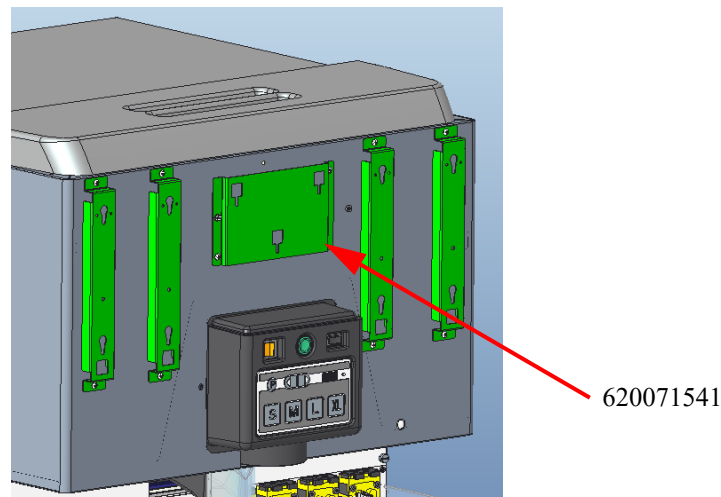

Figure 14.
- Figure 14. shows the location of adapter brackets, suitable for Option-3 & Option-6. Assemble Cup/Lid dispenser adapter bracket part no.620071540 at the two left and two right positions. If Straw holder is to be installed in the center area, use Straw holder adapter bracket part no.620071541 in the center area.